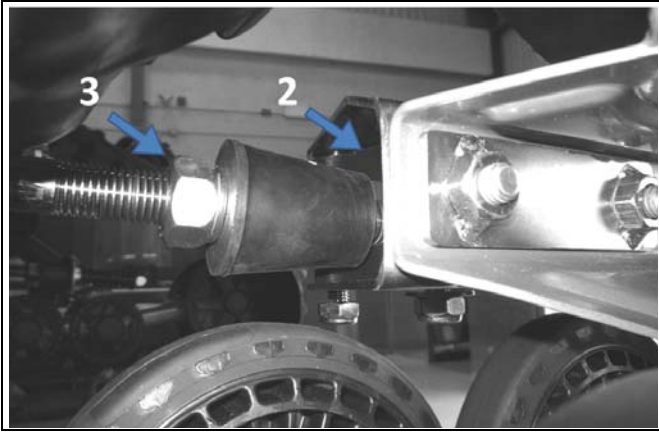

Figure 13
- Turn the nut (3) until the rubber cone are in contact with the housing of the anti-rotation retainer. The nut does not apply pressure on rubber cone (See Figure 13).